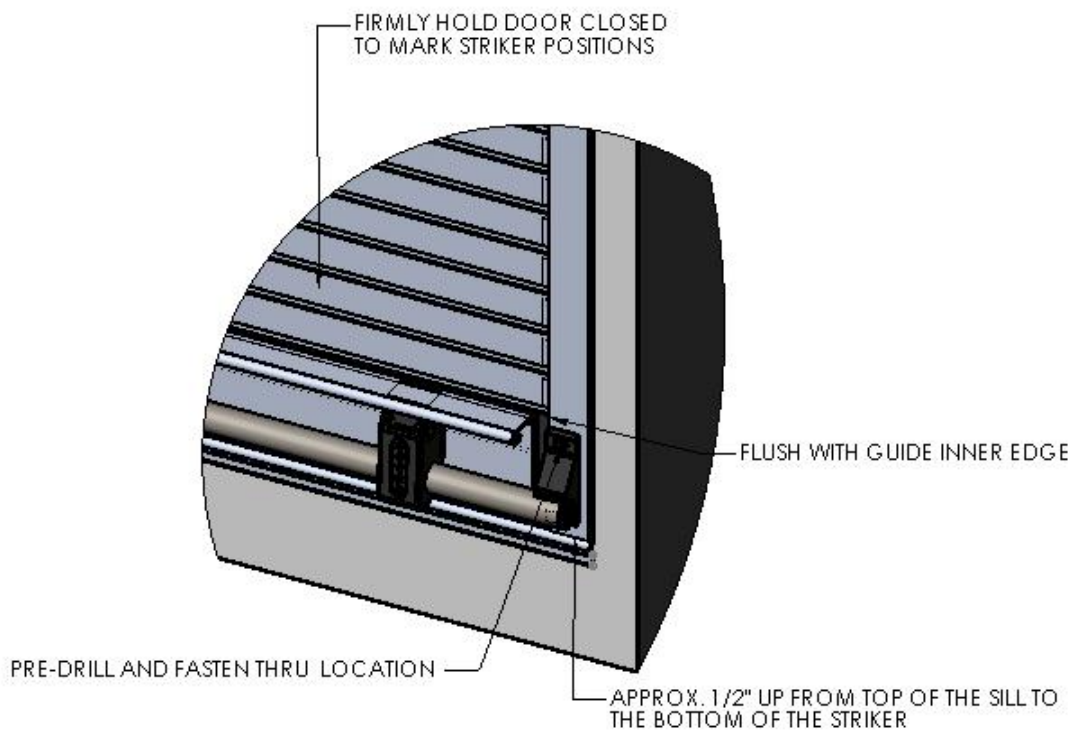

FIG. 9
5) Install striker blocks (If not already installed) See FIG. 9